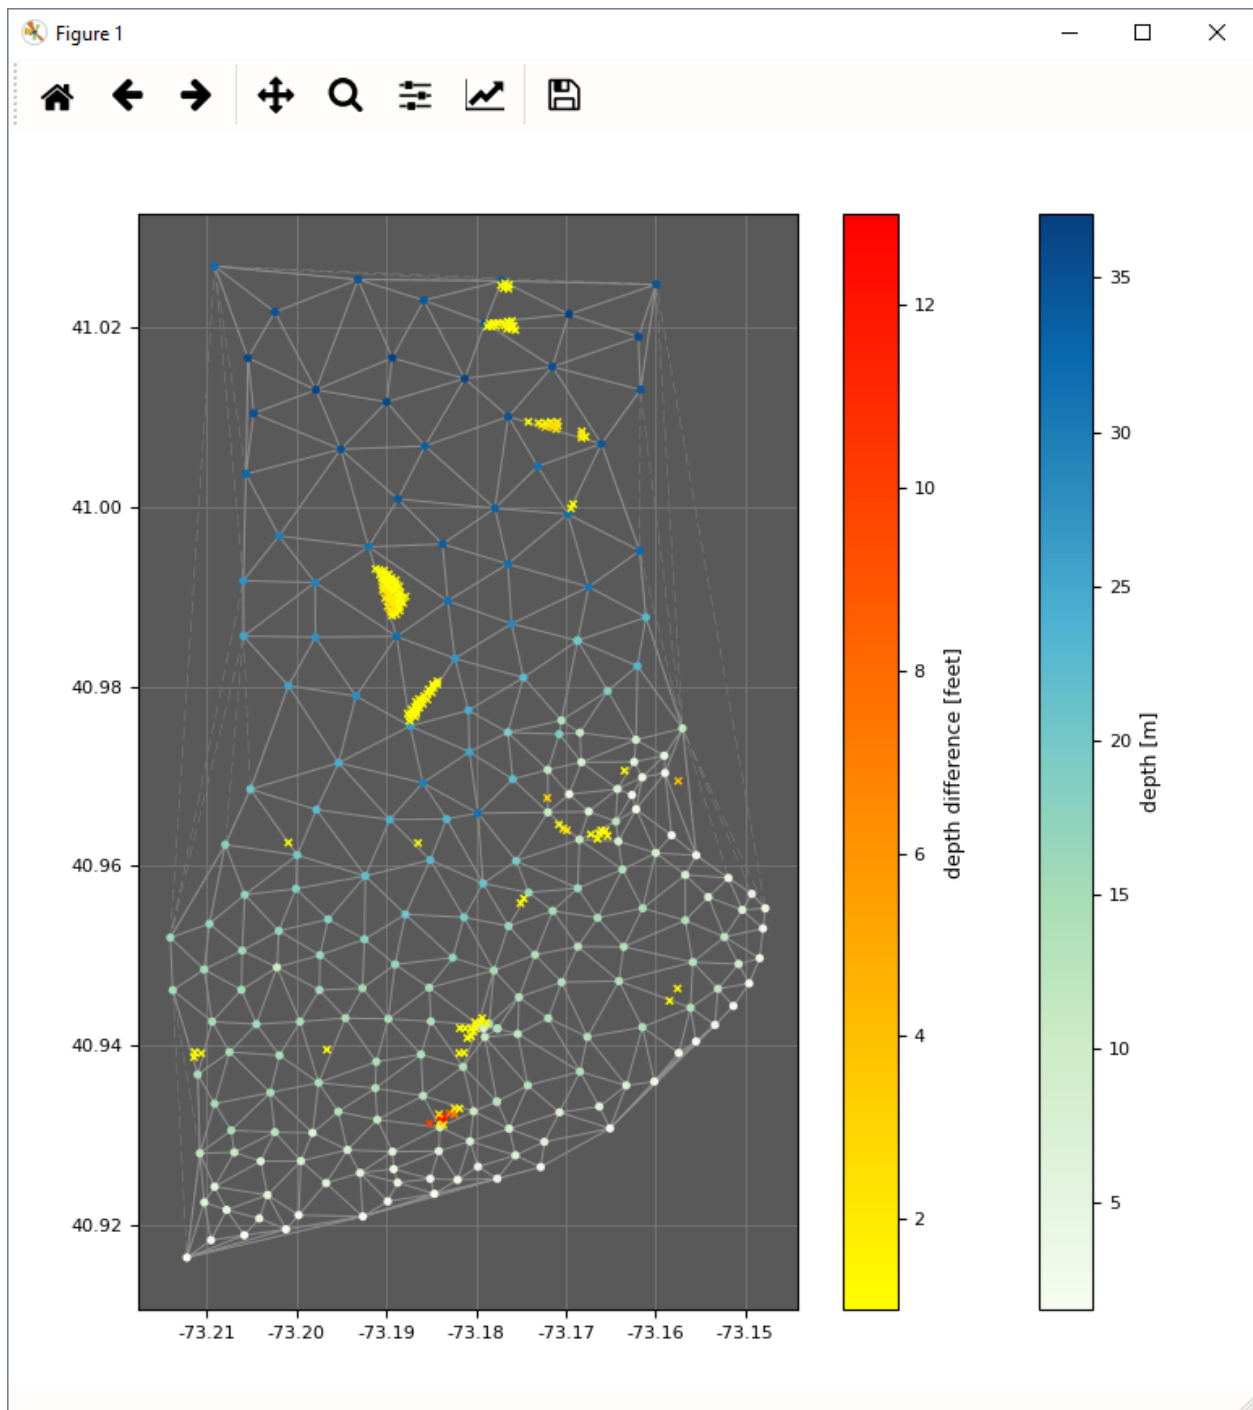

Fig. 2.47: Triangle rule's output display.
- After executing, the results are also shown graphically (Fig. 2.47). Chart-scale soundings are colored by depth, and flagged survey-scale soundings that may not be adequately represented are colored by their discrepancy.